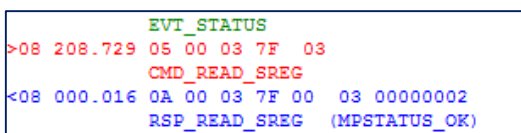

Figure 4: EVT_STATUS event
2. To ensure that the S registers have been successfully stored, use the *SReg Read* command, replacing **rr** with the register value and check to ensure that the returned value in the last section of the response matches the correct value (Figure 4).